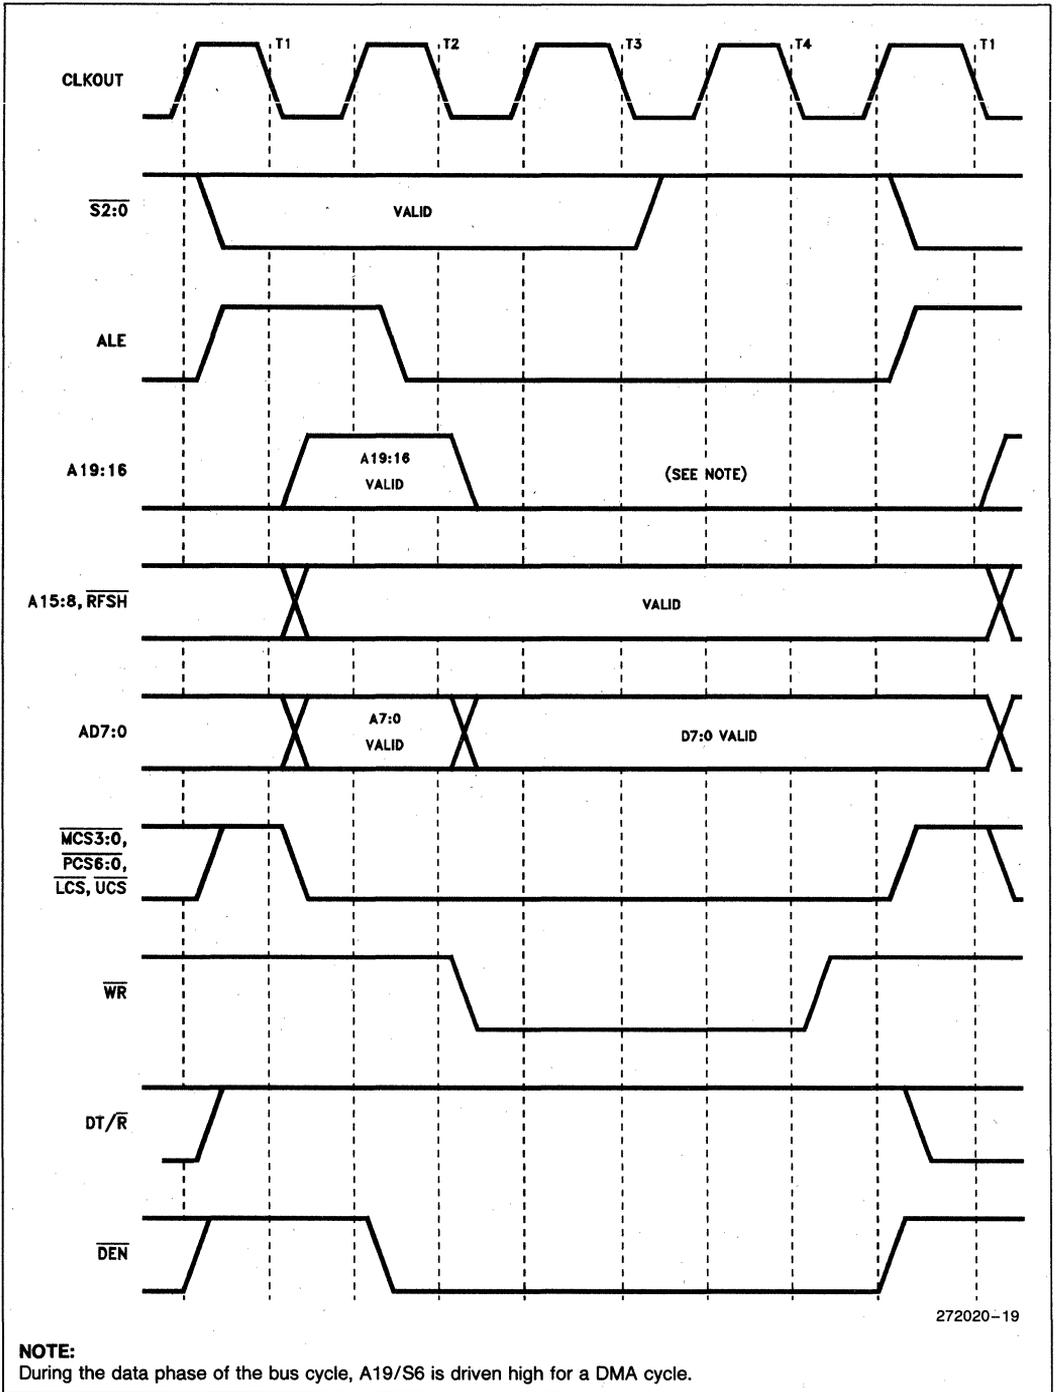

Figure 17. Write Cycle Waveform
5. Specified for a 50 pF load, see Figure 17 for rise and fall times outside 50 pF.
6. See Figure 17 for rise and fall times.